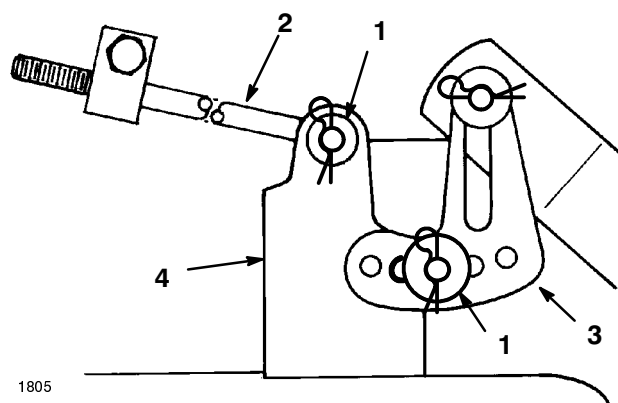

Figure 41
10. Remove the hair pin cotter and washer from the end of the long rod (Fig. 41). Slide the rod out of the mower mount.
11. Remove the hair pin cotter and washer at the mower leveling bracket (Fig. 41). Slide the bracket off the mounting pin. Re-install the washer and hairpin cotter for storage.